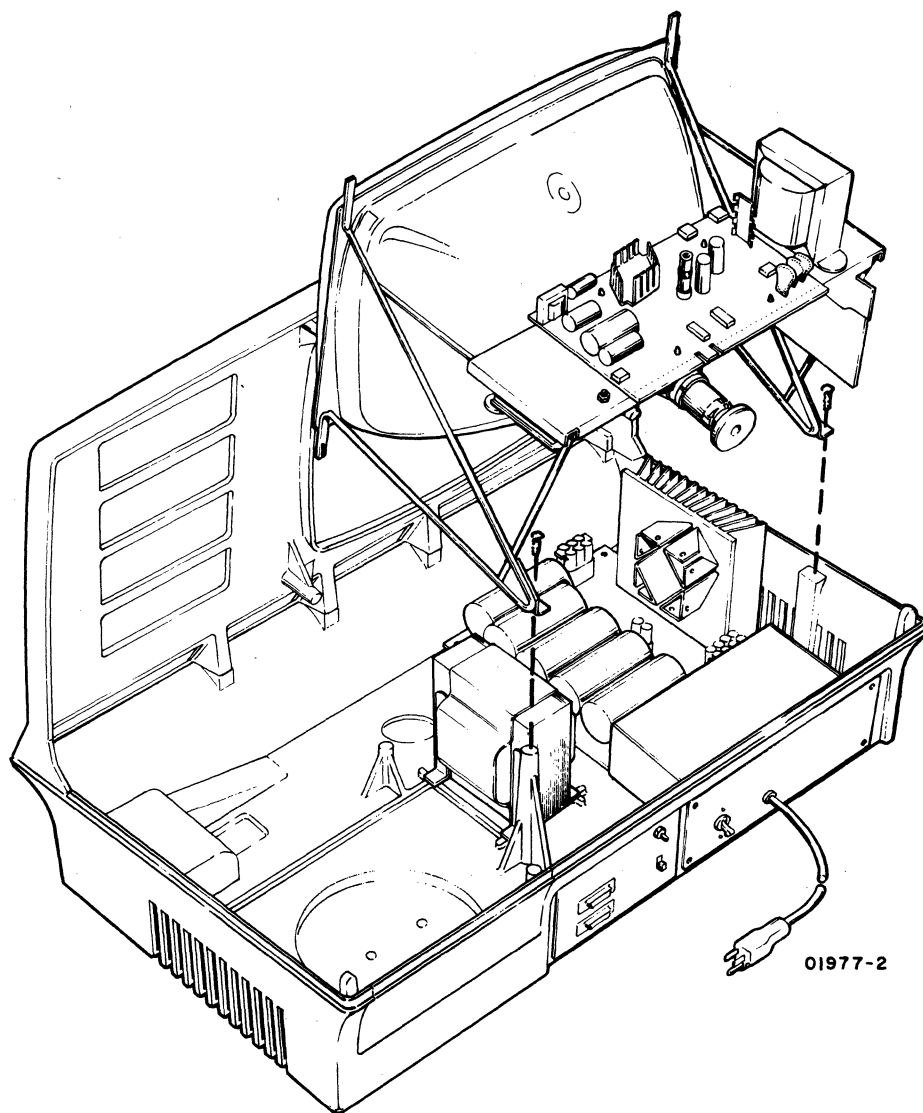

Figure CRT15. Video Module Removal
- 7) Grasp video module by mounting frames with both hands and carefully withdraw entire module from cabinet (see figure CRT15). Check to see that neck of crt or mounting frame is not caught on cabling.